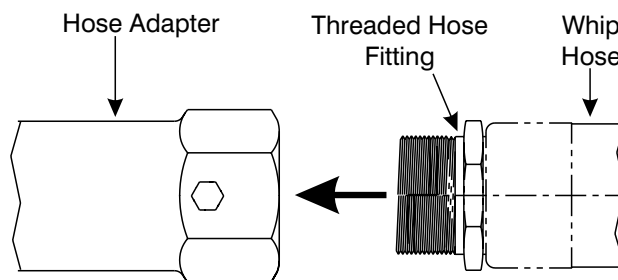

Figure 11-16. Thread the Whip Hose fitting into the Hose Adapter.
2. Obtain and inspect the new or used Whip Hose (14) to be installed. Inspect the Whip Hose for damage and for dirt that would damage the internal components of the Hole Hog.
- a. If the hose is damaged or worn, discard it and obtain a new Allied Whip Hose (14).
- b. If the hose fitting is crimped or distorted, or if the threads are damaged, so the fitting cannot be secured air tight, discard the assembly and obtain a new Allied Whip Hose (14).
4. Align the threads of the hose fitting with those of the Adapter and thread the Whip Hose (14) into the Hose Adapter (15). Refer To Figure 11-16.